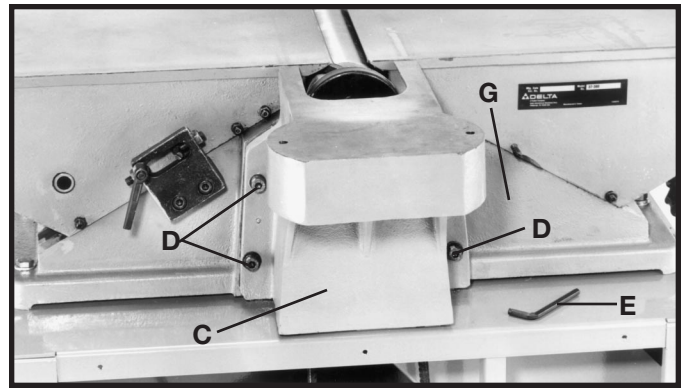

Fig. 14
2. Using the supplied 6mm hex wrench (E) Fig. 14, fasten bracket (C) onto jointer base (G). Place a M8.1 lockwasher then an M8 flat washer on an M8x1.25x55mm hex socket head screw. Insert the screw (D) Fig. 14, through the hole in bracket (C), and thread the screw into the jointer base (G), and tighten securely. Repeat this process for the three remaining holes in the bracket and jointer.